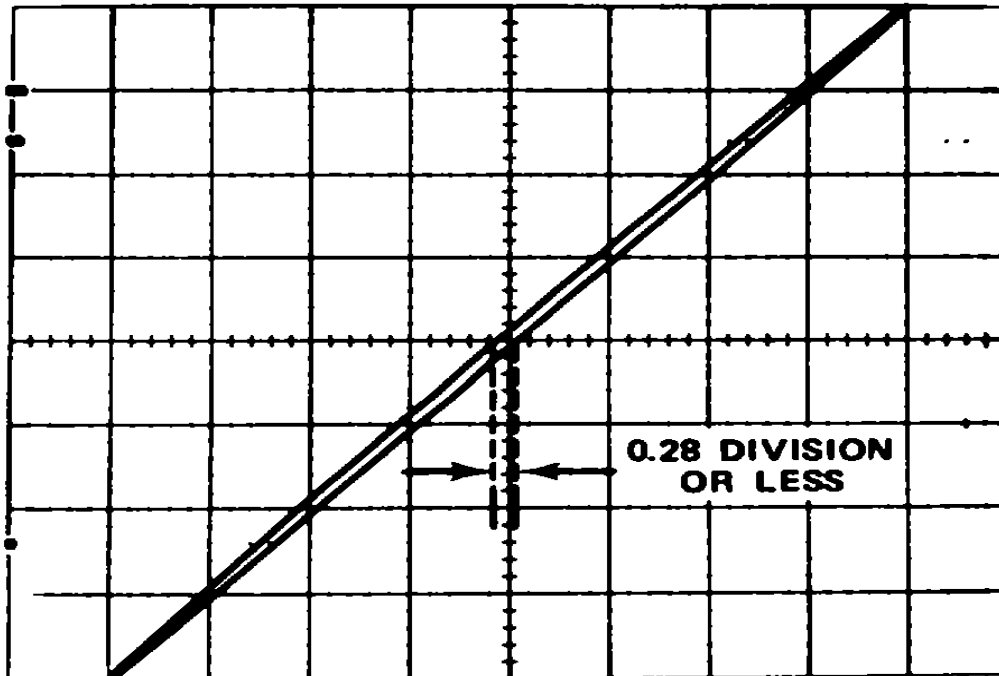

Figure 5-1. Typical crt display when checking X-Y phase shift.
- e. CHECK-The lissajous display for an opening at the center vertical line of 0.28 division or less (indicates two degrees or less of phase shift, see Figure 5-1)